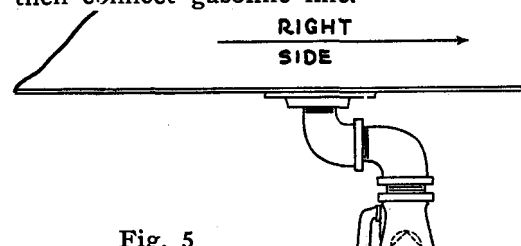

Fig. 5
6. Drain the gasoline tank, disconnect gasoline line at sediment bulb, remove bulb from tank, insert pipe elbows furnished with transmission, so that the bulb will stand to the right as shown in Fig. 5. Then insert bulb, using plenty of White Lead on all threads and draw tight so there will be no gasoline leaks, then connect gasoline line.